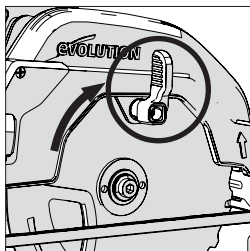

Fig. 5
- Rotate the lower blade guard up into the upper blade guard using the manual thumb lever. **(Fig. 5)**